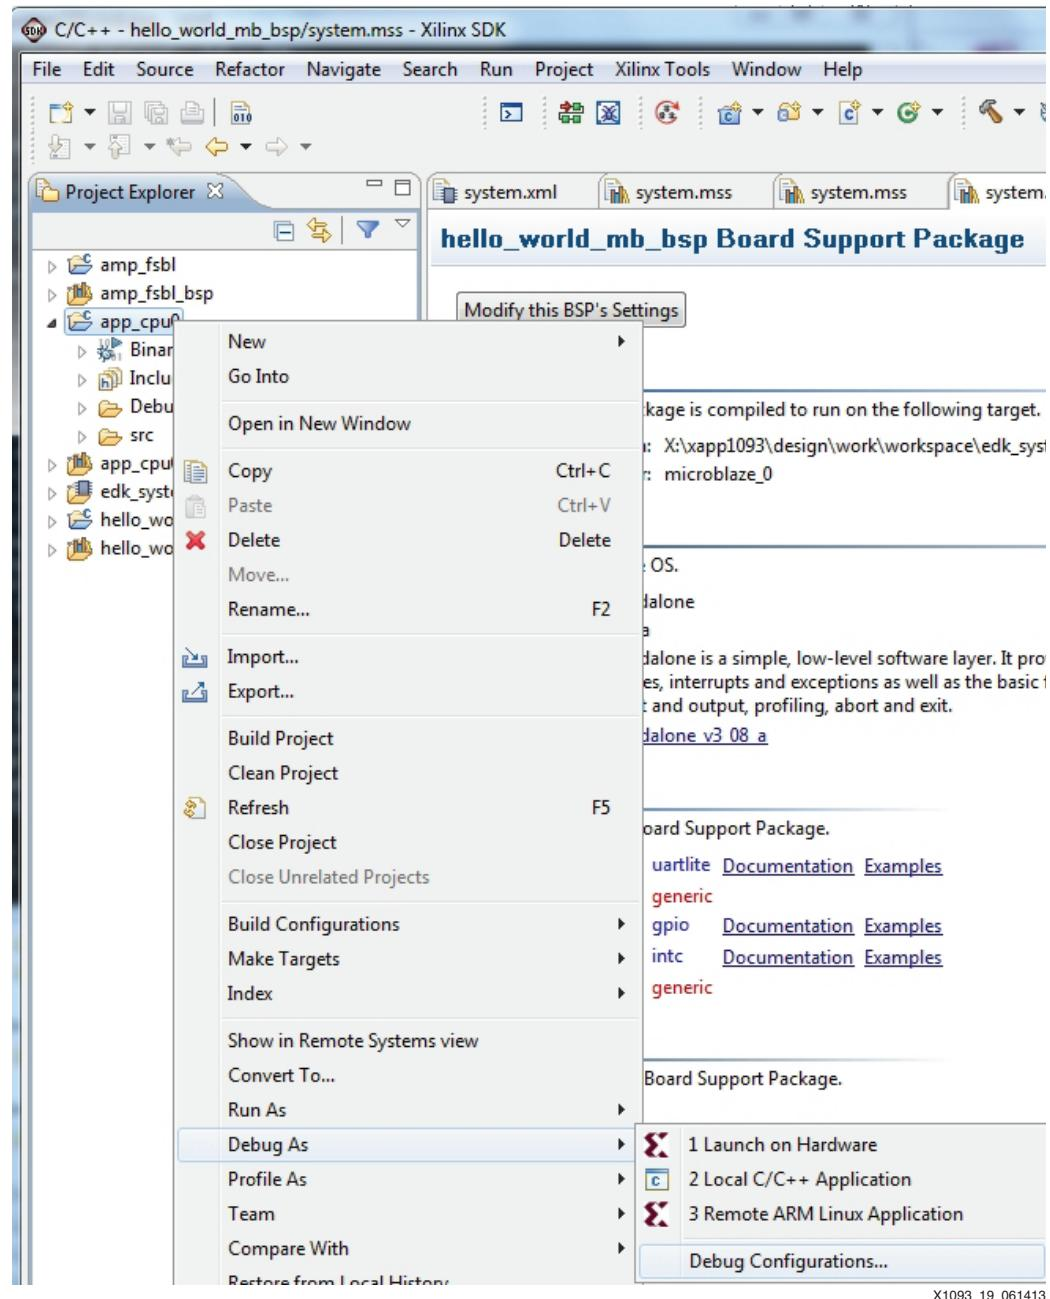

Figure 19: CPU0 Debug Configuration
1. In the SDK Project Explorer window, right-click **app_cpu0** and select **Debug As > debug_configurations**, as shown in Figure 19.